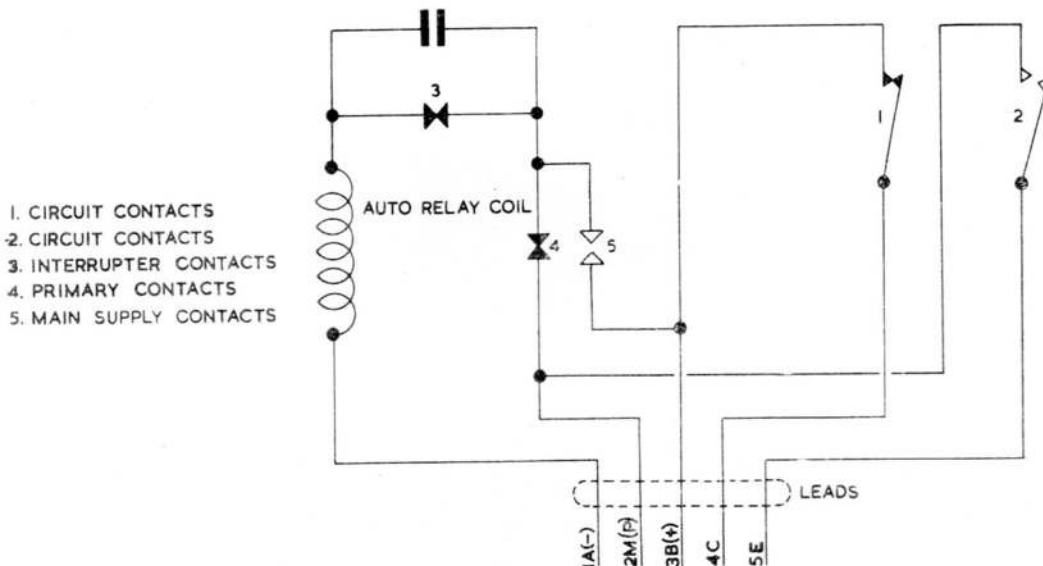

Fig. 4. Diagram of internal connections
6. The diagram of internal connections (*fig. 4*) shows the contacts in their normal positions, i.e., with the switch set before commencing a cycle. Contacts 1 and 2 are those for controlling the external circuit, making contact between leads 3B(+) (28-V. d.c.) and 4C and between leads 2M(P) (28-V. d.c.) and 5E respectively for predetermined periods during the 36 second cycle (*para. 10*). Contacts 3 are the interrupter contacts of the auto-relay, being operated by a pin on the armature, and contacts 4 and 5 are the primary contacts and main supply contacts. Lead 1A(-) is the negative of the auto-relay.
lead is identified by a sleeve bearing its full designation (fig. 4).